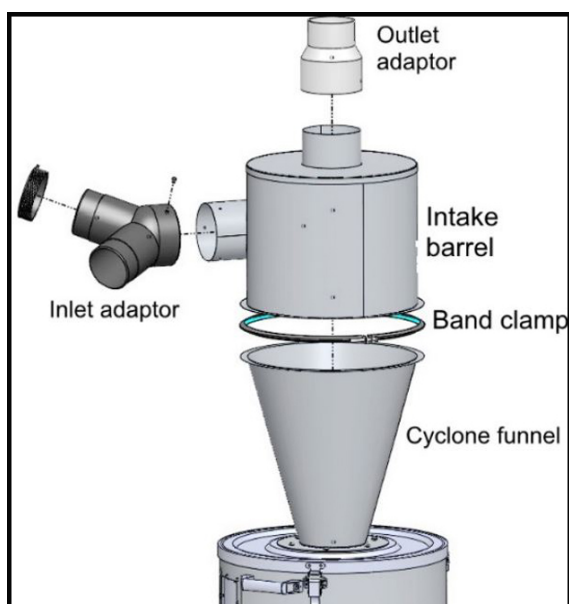

Figure 6
7. Place intake barrel on top of cyclone funnel, then apply band clamp on the cyclone funnel and intake barrel's lips to tighten and secure both. (See figure 6)
8. Install inlet adaptor on dust port and secure with M5X8 screw. Then fit the lid on the adaptor. (See figure 6)
9. Install outlet adaptor on intake barrel. (See figure 6)